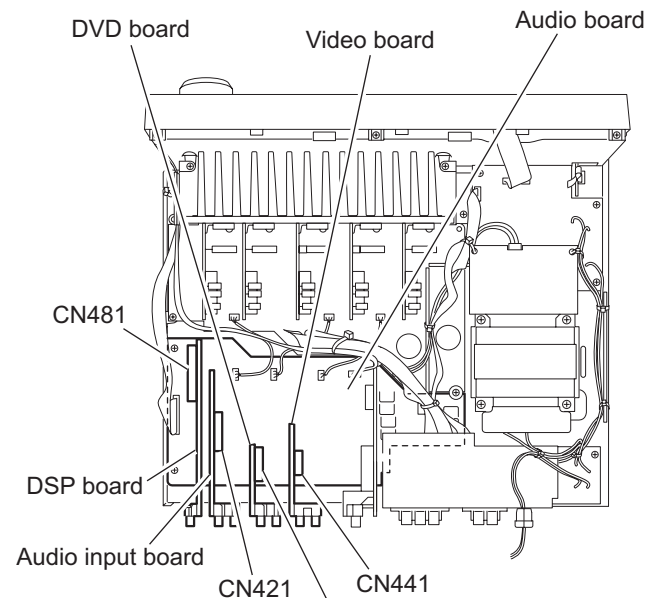

Fig.5
2.4 Removing the DSP board, audio input board, DVD board and video board (See Fig.5)